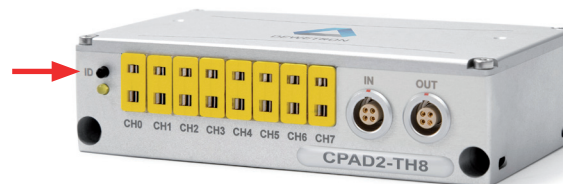

Figure 8: ID-Button at the front of an EPAD2-module
- > Once the programming has begun, the software will ask you to press the black ID button (see Figure 8) on the first EPAD2-module. Then it will increment the address in the software by one. At this point you will press the second EPAD2s' black ID button and so on.